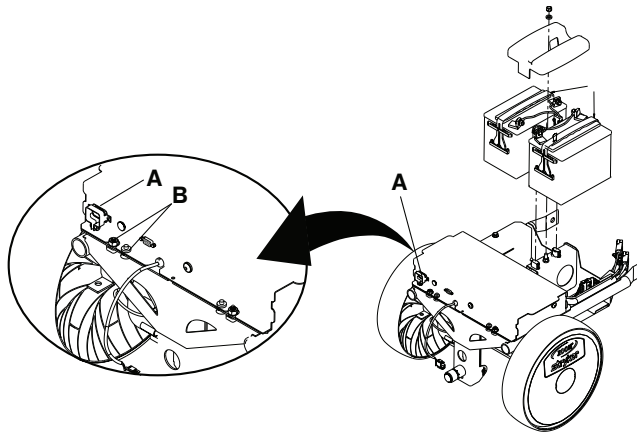

Figure 16 – Loosen the thumb screws
5. Using a #1 Phillips screwdriver, loosen the screw on the power cord clamp (A) that connects the power cord to the electrical enclosure assembly (Figure 16).
7. Using a slotted screwdriver, loosen the two thumb screws (B) that secure the communication cable to the electrical enclosure assembly.